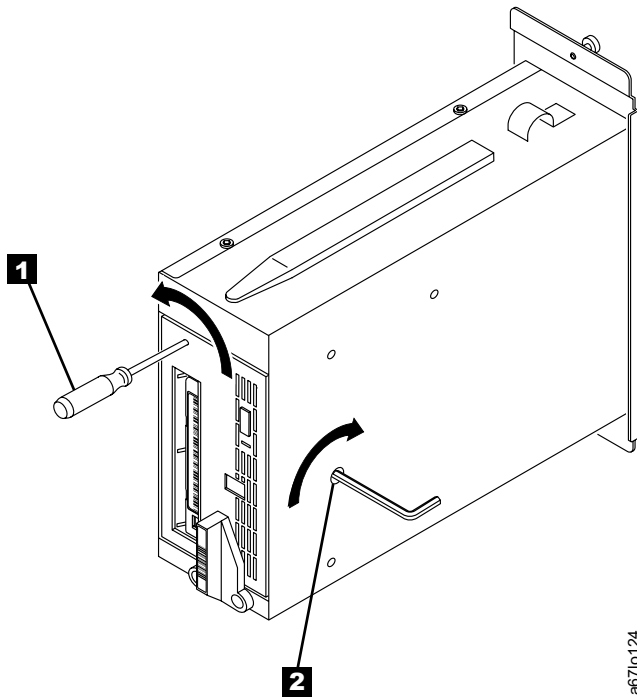

Figure 215. Unloading the tape cartridge.
- If the takeup reel is not turning, and the allen wrench rotates freely, the tape is broken or the tape (along with the leader pin) is completely contained in the cartridge. Insert a small-blade screwdriver or potentiometer-setting tool into the access hole for the loader motor gear (see **1** in Figure 215 on page 176). While guarding against excessive revolutions or force that may strip the gears and cause permanent damage to the drive, rotate the screwdriver counterclockwise:
11. With the allen wrench still inserted into the bottom access hole, insert a small-blade screwdriver or potentiometer-setting tool into the access hole for the loader motor gear (see **1** in Figure 215).